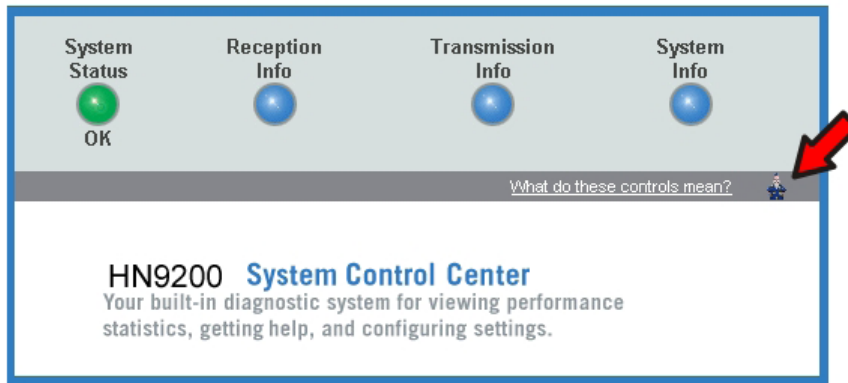

Figure 78: Icon for accessing Advanced Pages (arrow)
- On the System Control Center home page, click the small icon indicated by the arrow in *Figure 78: Icon for accessing Advanced Pages (arrow)* on page 104. The icon is a link to the Advanced Pages.